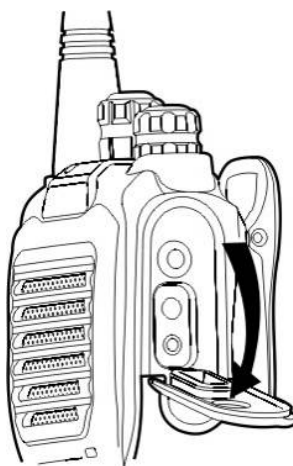

Figure 1
- ① Open the earphone/microphone jack cover (unnecessary to remove). See figure 1.